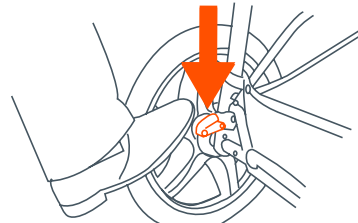

Fig. 11
- 11) To engage brakes, apply downward pressure to the brake levers located on the rear axle. The stroller may require forward or rearward movement in order to engage the brake (Fig. 11). Check that the stroller will not move once the brakes are properly applied. To release, gently lift up on the brake levers.